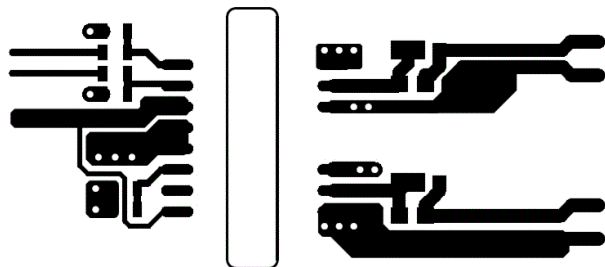

Figure 11-2. Top Layer Traces and Copper
- Increasing the PCB copper connecting to VDDA, VDDB, VSSA and VSSB pins is recommended, with priority on maximizing the connection to VSSA and VSSB (see Figure 11-2 and Figure 11-3). However, high voltage PCB considerations mentioned above must be maintained.
Figure 11-2 and Figure 11-3 shows top and bottom layer traces and copper.